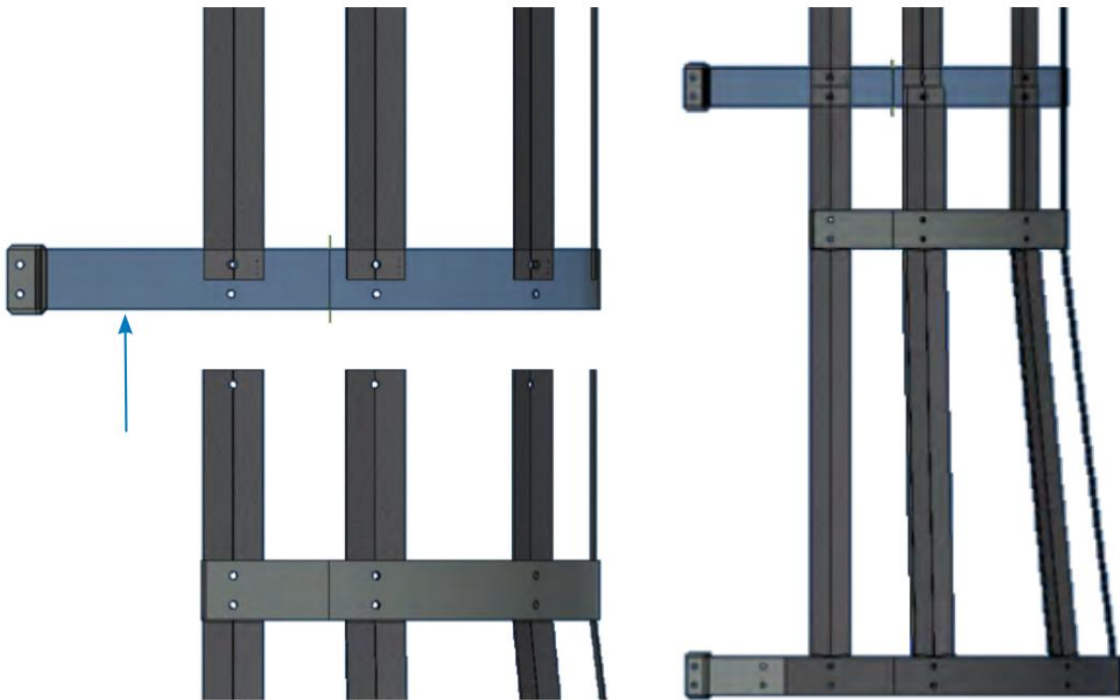

Figure 23. Ladder Safety Cage Assembly
1. If the safety cage is shipped in multiple pieces assemble the bottom flared section to the upper safety cage section. Secure with supplied hardware. See **Figure 23**.